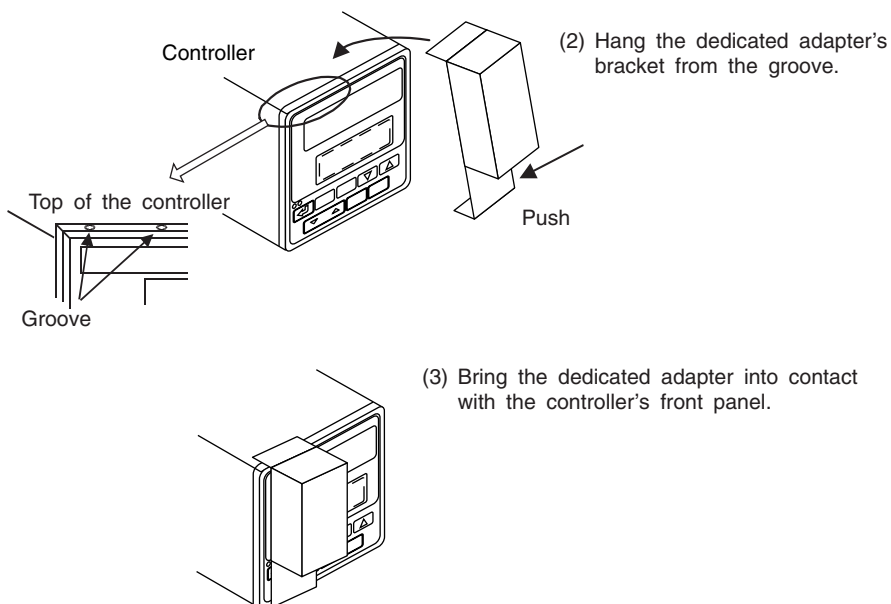

Figure 2.3.3 Attaching the Dedicated Adapter
- (2) As shown in Figure 2.3.3, hang the dedicated adapter from the top groove of the controller.
- (3) Push the adapter to the controller's front panel to securely fix it in place.